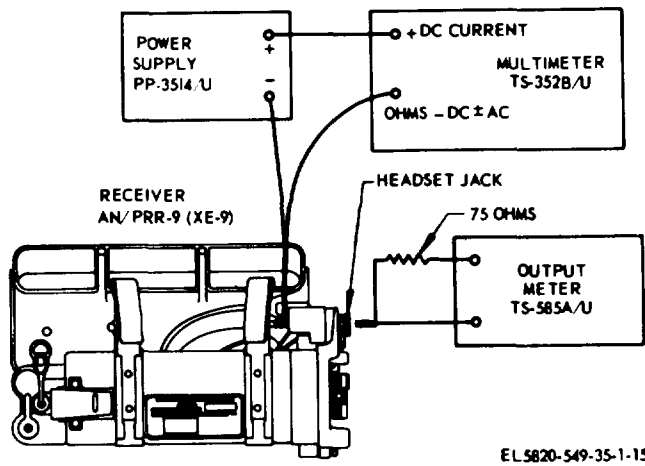

Figure 4-6. AN/PRR-9(XE-9) dc power consumption test.
- Connect the test equipment as shown in figure 4-6.